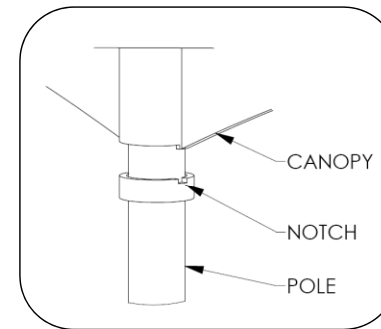

Fig. 1 – Install pole
2. Insert the pole into the canopy assembly, aligning the notch on the pole collar to fit onto the bottom gusset. See Fig. 1.